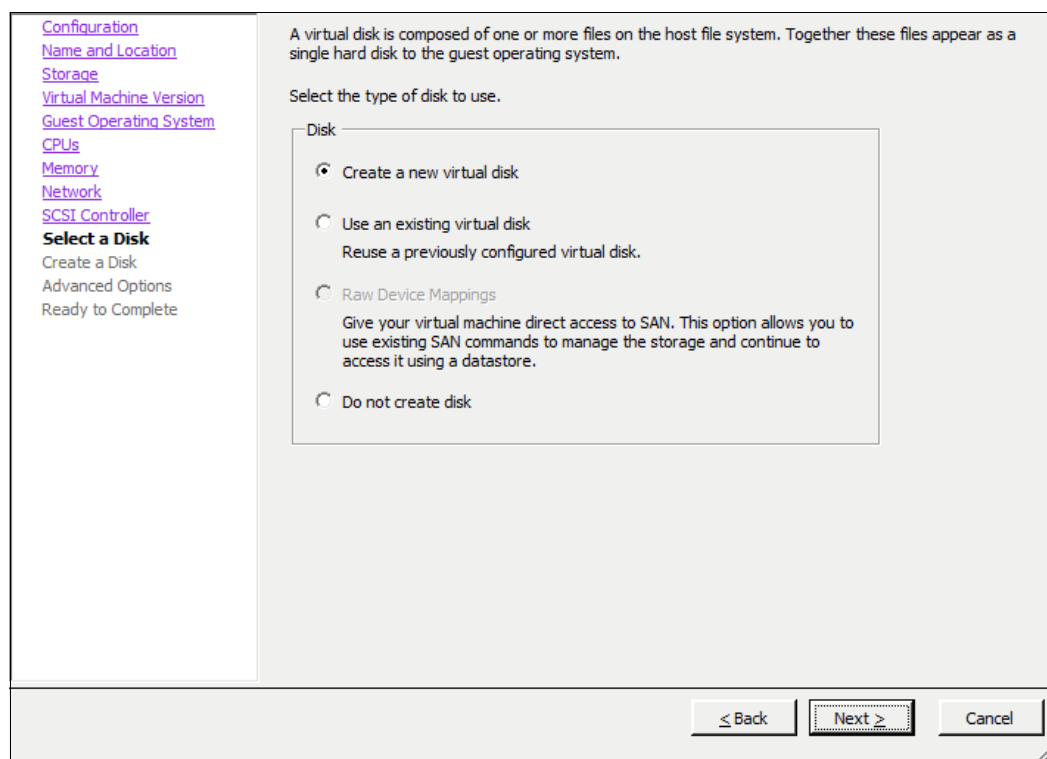

Figure 3-13 Disk creation panel
11. In the Select a Disk panel (Figure 3-13), select **Create a new virtual disk** and click **Next**.